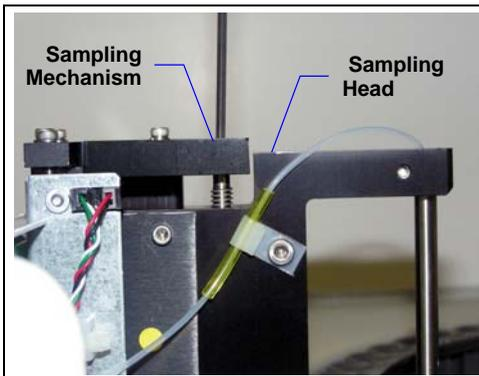

Figure 5-12. Lowering the Sampling Head Before Turning on the Power
7. Turn the wrench counterclockwise to begin lowering the needle. Turn the wrench until the top of the sampling head is about 6 mm (1/4 in) below the top of the sampling mechanism (see Figure 5-12).